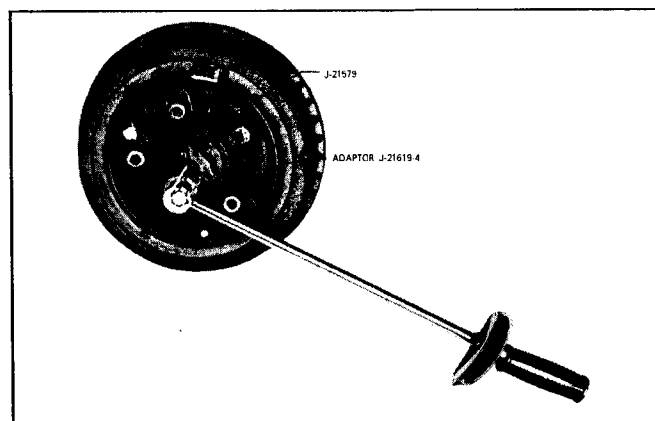

Fig. 4D-1 Testing Safe-T-Track
2. Remove opposite wheel and install special tool J 21579 with adaptor J 2619-4. As shown in Figure 4D-1.